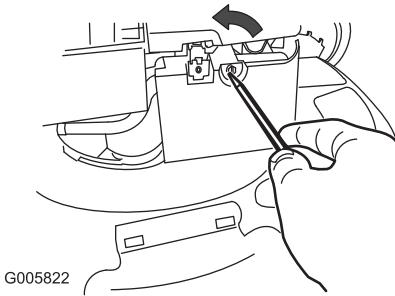

Figure 17
- Use a screw driver to open the air-filter cover (Figure 17).